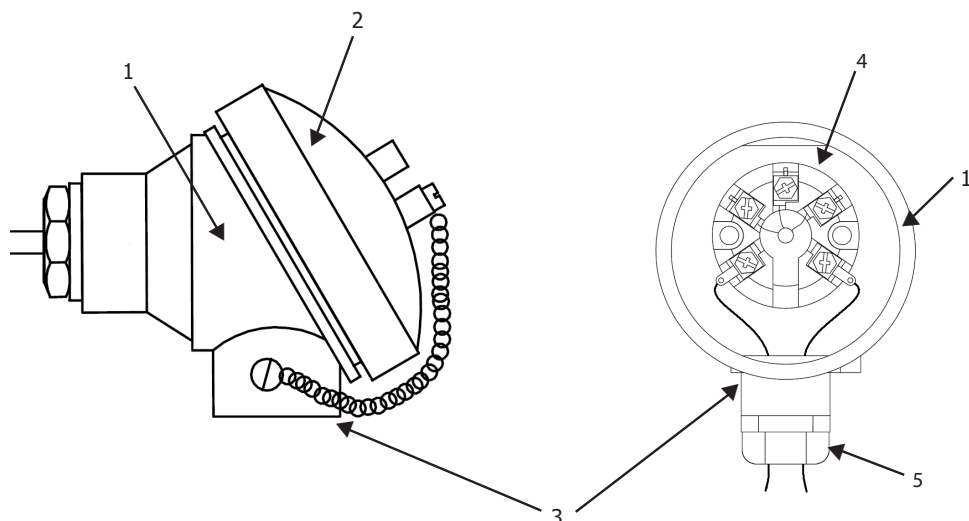

Figure 19 *Temperature Transmitter Housing*
- a. Cable connection to the temperature transmitter is made via the terminal block (4) accessed by removing the terminal housing lid (2) (*Figure 19*).